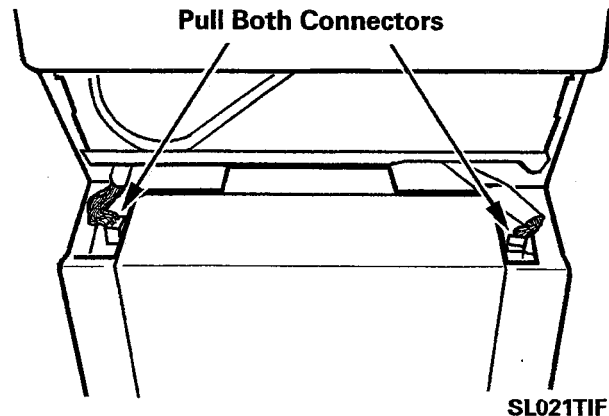

Figure 2-18
3. Disconnect the electrical connectors by squeezing the retaining clips on the connectors and gently work the connectors out of the sockets (*Figure 2-18*).